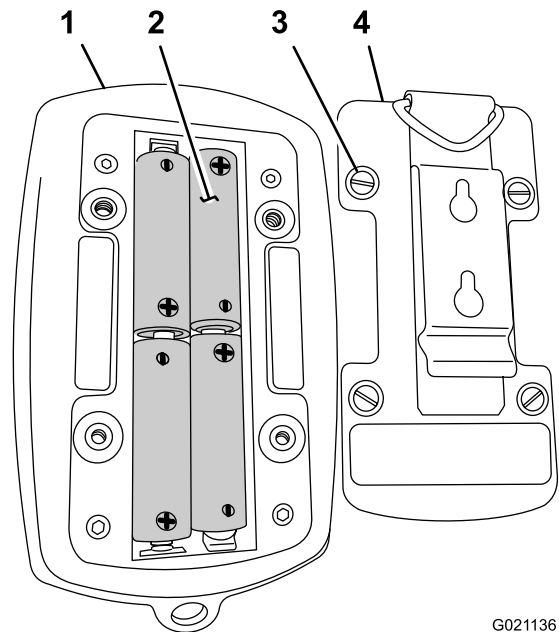

Figure 71
1. Loosen the 4 screws that secure the battery cover from the back of the radio-control transmitter, and remove the cover (Figure 71).
3. Insert the replacement batteries (Figure 71).
4. Install the battery cover to the transmitter and secure with the 4 screws (Figure 71) loosened in step 1.